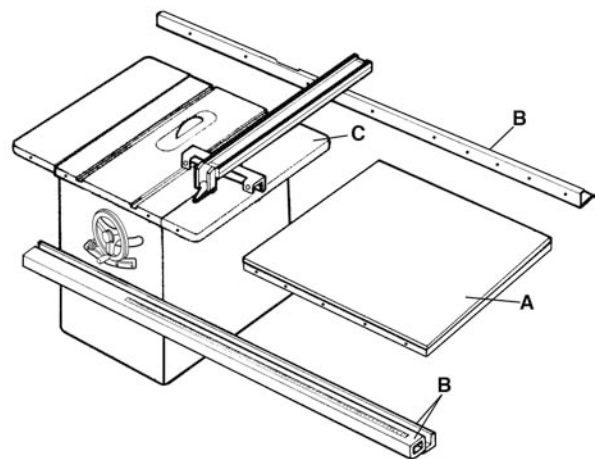

Figure 1
- 1) Position the laminated melamine extension table (A) Fig.1 between the installed front and rear rails (B) of your rip fence system and up against the right side extension wing (C) of your table saw.